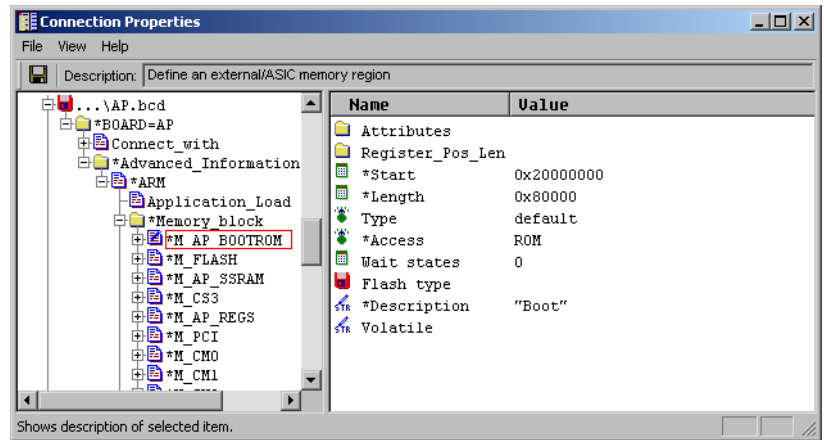

Figure 5-15 Editing the memory block in the AP Board/Chip definition file
- creating a Board/Chip definition file, similar to the AP.bcd shown in Figure 5-15 on page 5-43, and then reference it from the board file using the BoardChip_name setting in the CONNECTION= group.